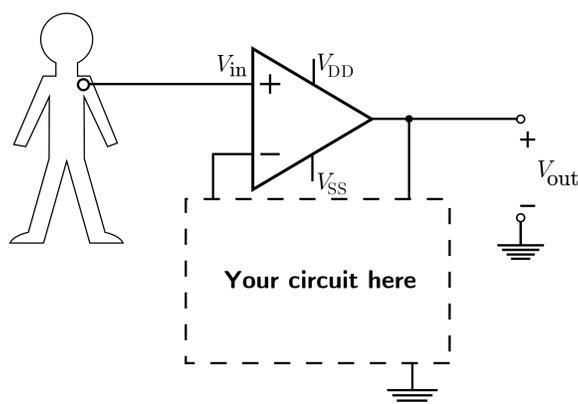

Figure 4: Unfinished ECG amplification circuit.
- (a) (3 points) We need to amplify the voltage signal recorded by the electrodes V_{in} by a factor of 1000. Using the op-amp in Figure 4 below and 2 resistors, **draw a circuit that achieves $V_{out} = 1000 \cdot V_{in}$. Write an equation for V_{out} in terms of V_{in} and the resistor(s), label the resistor(s) you use (i.e. R_1, R_2), and choose their values.** You should redraw the entire circuit in your answer sheet, but there is no need to draw the human as long as you label V_{in} . Clearly explain and show your work.